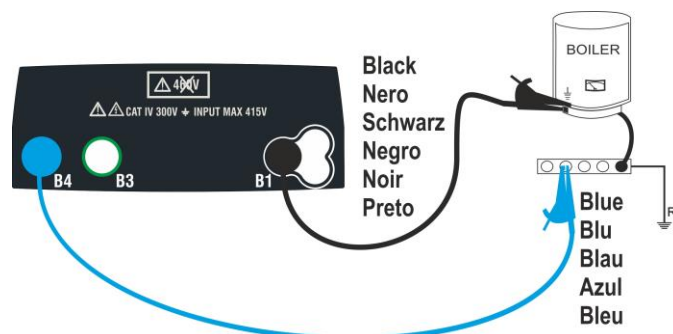
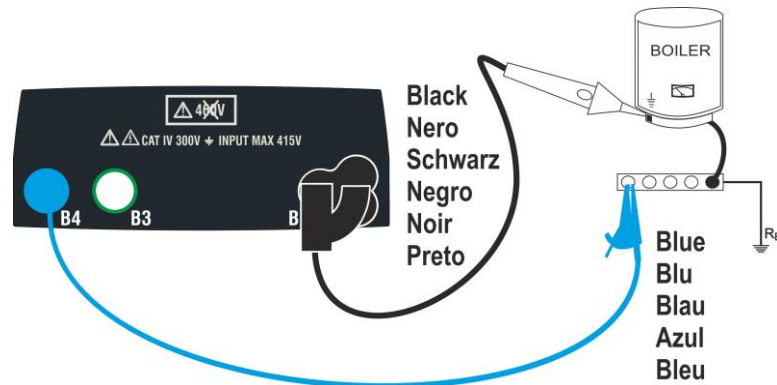

Fig. 8: Continuity test by means of single cables
Fig. 9: Continuity test by means of remote lead
6. Connect the test leads to the ends of the conductor to be tested as in Fig. 8 o Fig. 9